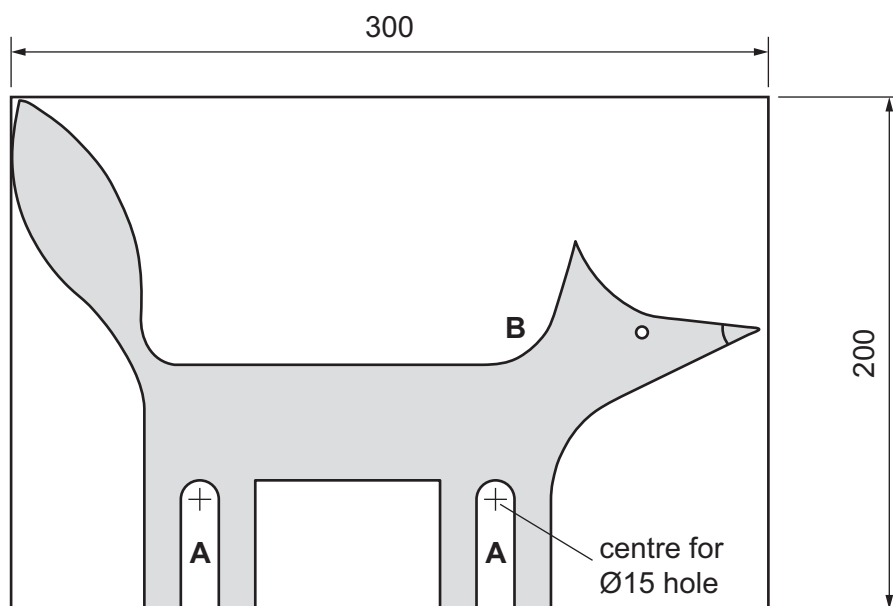

Fig. 12.2
- (a) Fig. 12.2 shows a card template of the coat hook shape glued onto mild steel sheet. The waste between the legs, labelled **A**, will be removed by drilling a hole and then using a saw to cut out the remaining sheet metal.
- (v) Name a suitable type of file that could be used to make the curved edge shown at **B** in Fig. 12.2 smooth.